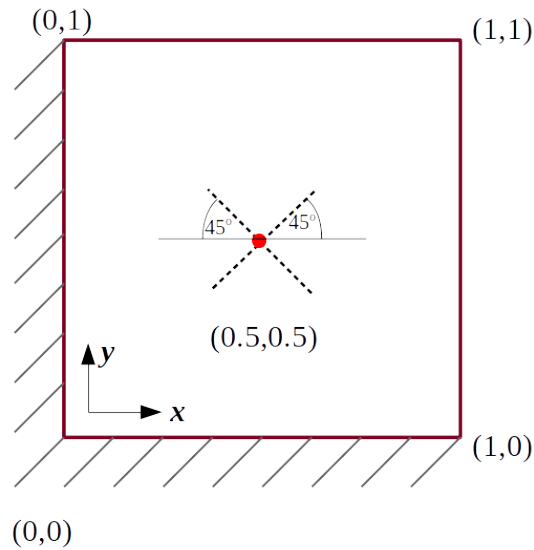

Figure 3: Problem 3
3. Figure 3 shows the square cross-section of a solid undergoing plane strain deformation with the following state of in-plane strain:
- A marker is located at  $(0.5, 0.5)$  in the undeformed configuration as shown in Figure 3. Calculate its co-ordinate after the deformation. **(3 marks)**
- Calculate the strain recorded by strain gages are located at  $(0.5, 0.5)$  inclined at an angle of  $45^\circ$  and  $135^\circ$  with respect to positive  $x$ -axis (See Figure 3). **(4 marks)**